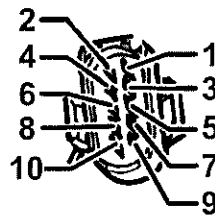

Fig 16 Connector plug for fuel temperature sender (G81)
21.9 Remove the connector from the fuel temperature sender (G81) adjacent to the injection pump. Measure resistance between contacts 4 and 7 on the connector (see Fig 16).